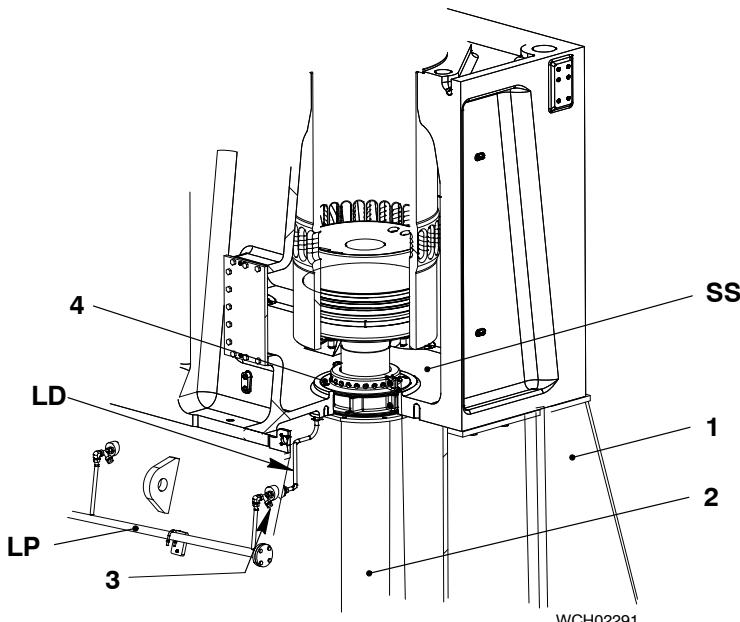

Fig. 1: Location of Piston Rod Gland Box
The piston rod gland (4, Fig. 1) keeps the dirty oil in the scavenge space (SS) and prevents contamination of the bearing oil. Also, the piston rod gland seals the scavenge air from the crankcase (1).